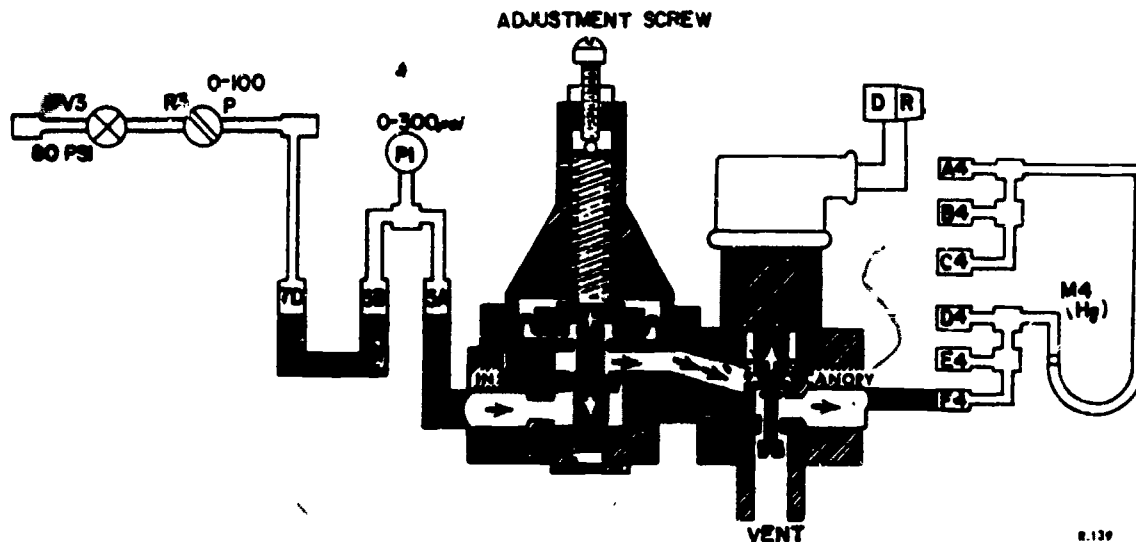

Figure 1.
(1) Inspect all parts for evidence of _____, _____, and _____.
(2) Inspect all threaded areas for _____, _____, _____, or _____.
a. Refer to the hookup shown in figure 1 to complete the following steps.
c. The hoses are indicated by heavy black lines in Figure 1. Get the hoses from the bottom of the trainer. Connect the hoses to the regulator as shown. Do Not use a wrench to tighten the "B" nut as finger tightness is sufficient for this test.
- i. Place switch S2 in position number 3. This energizes the canopy seal regulator solenoid or simulates closing of the canopy. If the regulator is adjusted correctly, manometer M4 will read 20 to 24 psi. This is the amount of pressure actually going inside the canopy seal. If the reading on manometer M4 is not between 20 to 24 psi you will have to adjust the canopy seal regulator. Adjustment procedures can be found on page 3, paragraph 8b, of the TO. Make any adjustments now if necessary. Refer to figure 1 in this workbook to find the adjustment screw. Have your instructor check your manometer reading.